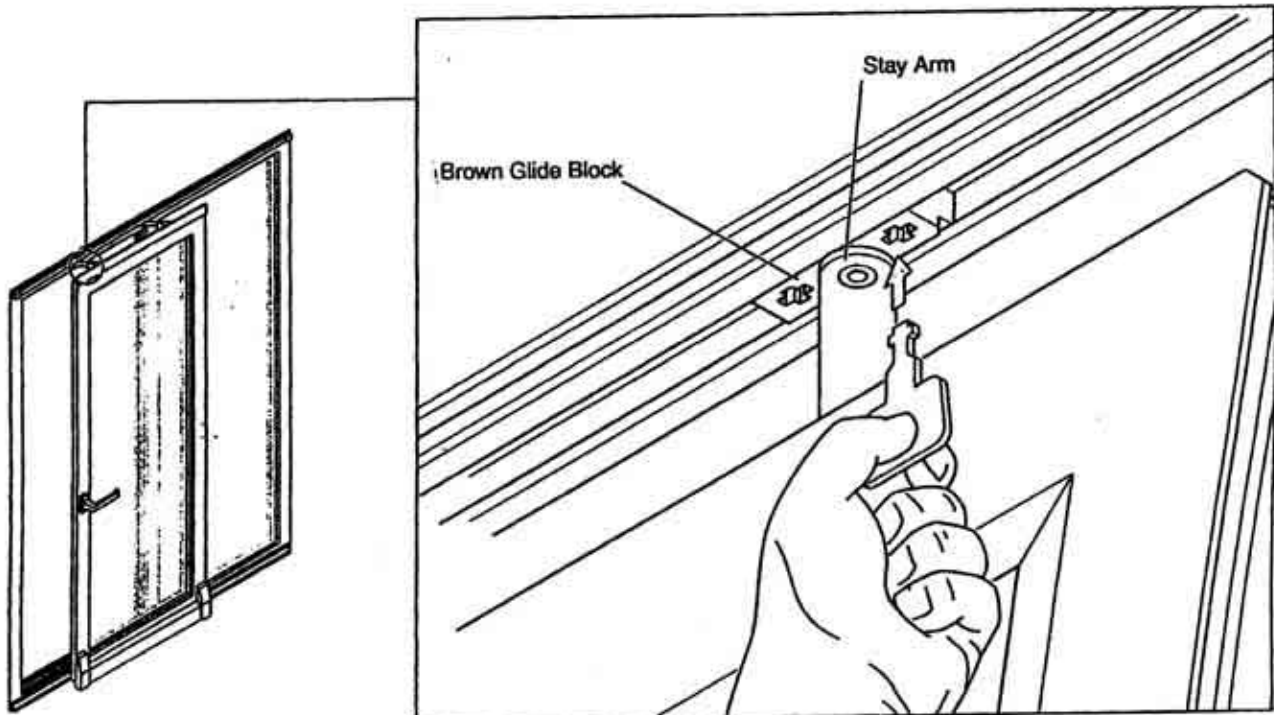

Figure 5-8. How to remove the stay arm assembly
- 3.2 With the sash in the open position (but still in the opening) insert the special key into the glide block which retains the stay arm. See fig. 5-8.